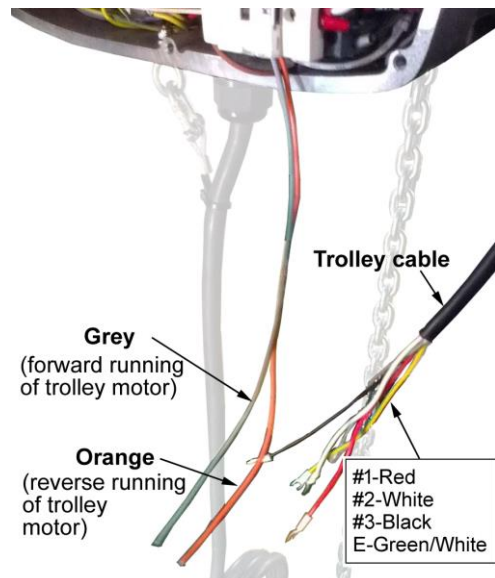

Figure 6-6
- Locate the grey and orange wires in the hoist. See Figure 6-6. The grey wire will control the forward movement of the trolley. The orange wire will control the reverse movement of the trolley.